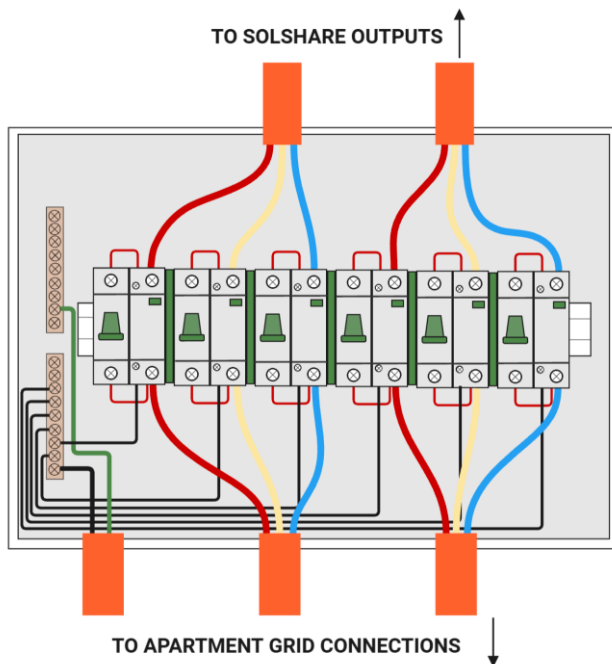

Figure 5. Full Isolation Box Internal wiring
1. For each SolShare output (i.e. L1-1, L2-1, L3-1, ..... L2-5, L3-5), connect the cables to the contactor terminals labelled "1" on the respective contactors as shown in Figure 5.